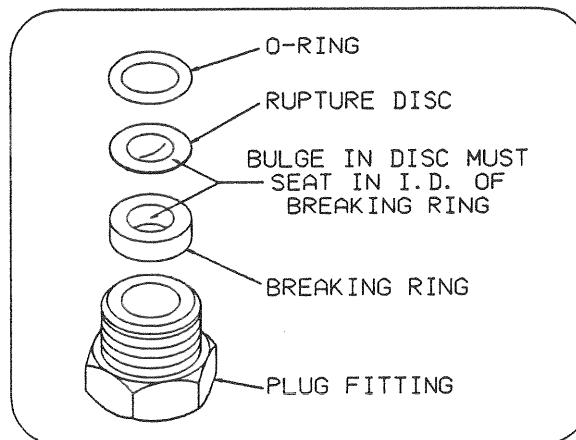

Figure 8 - Rupture Disc
7. Place new rupture disc on O-ring in port with "bulge" facing the breaking ring (See Figure 8.)